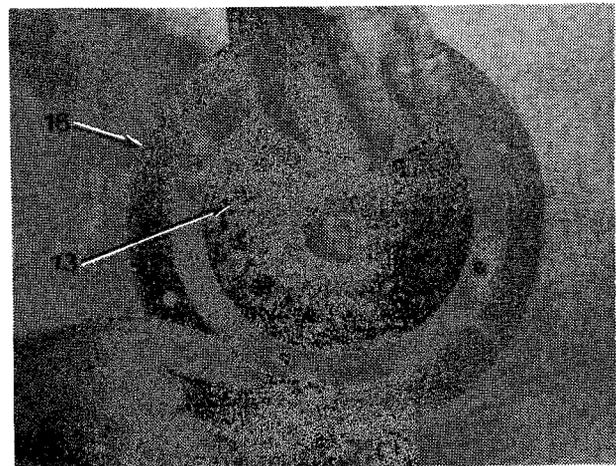

Figure 16-5
5. Remove 12 die springs (13) from brake cylinder (16, Figure 16-5).